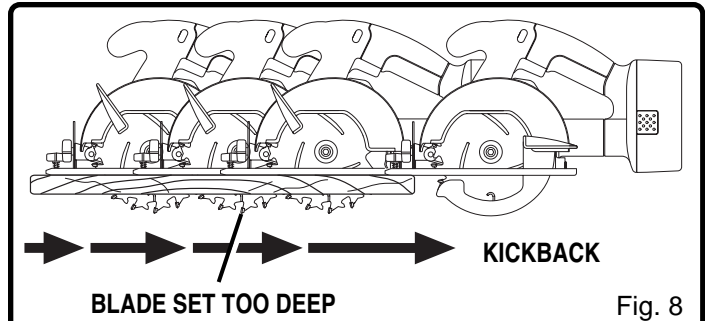

Fig. 8
See Figure 8.
- Incorrect blade depth setting. See Figure 8.